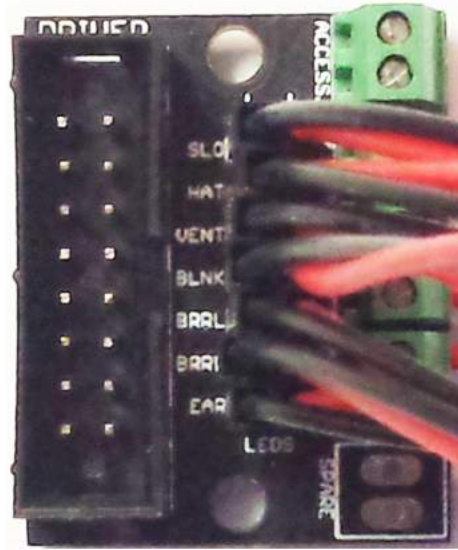

Figure 3-2 PDB LED Connections
- Step 2) Plug each of the seven LED connectors onto their respective pins, locating the red wire on the pin indicated by a "+" symbol as shown in Figure 3-2. The connectors should be fully mated to the pins.